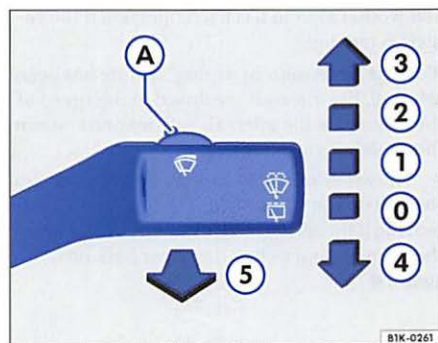

Fig. 44 Windshield wiper and windshield washing lever
windshield wiper lever ⇒ fig. 44 has the following settings:
- The previous wiping speed will be automatically selected when the vehicle stops, when wiping speed $\Rightarrow$ page 49, fig. 44 ② or ③ is selected. The selected wiping speed will resume when the vehicle drives off again.
After the ignition is switched on, the headlights are washed the first time and then every fifth time the windshield washer system is used, when the windshield wiper lever $\Rightarrow$ page 49, fig. 44 ⑤ is pulled back towards the steering wheel – while the low or high beams are turned on. However, at regular intervals, for example when refueling, stubborn dirt (such as insect remains) should be removed from the headlight lenses.